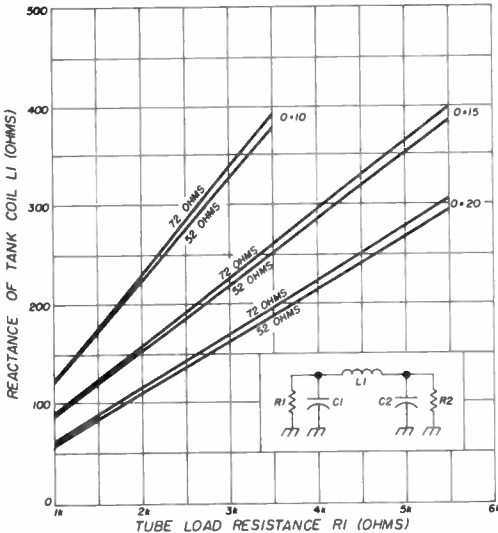

fig. 14. Tank coil reactance as a function of tube load resistance for pi networks. R1 is the tube load resistance and R2 is antenna resistance.
5. Find the reactance of the pi-network coil from fig. 14. For the case of two 3-400Zs operating with a load resistance of 1560 ohms and a Q of 15, the reactance of the coil is approximately 120 ohms.